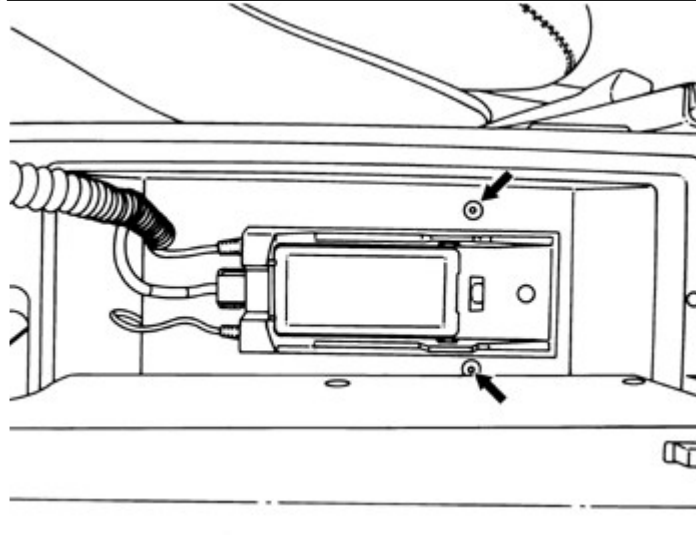

Figure 8
11. Replace carpeting and charger-holder into center console compartment, routing the harness along right side of compartment. Secure carpeting with two screws (arrows, Figure 8) to angle bracket in compartment.